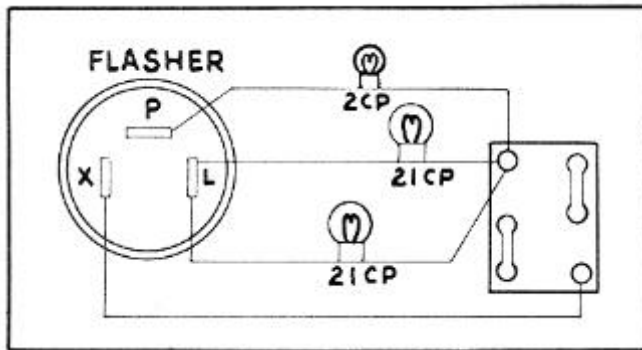

FIGURE 35
2. Connect a six volt battery to terminal marked "X", Figure 35: